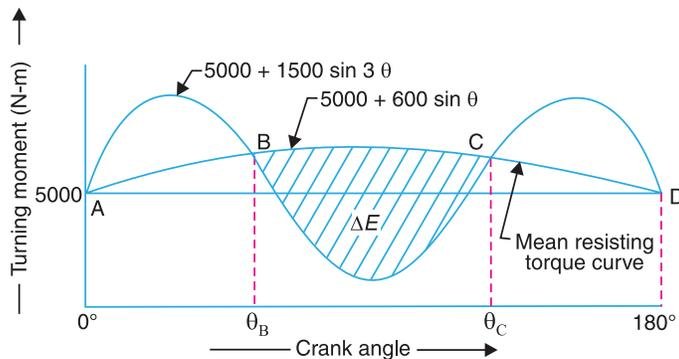

Fig. 16.16
The turning moment diagram is shown in Fig. 16.16. Since at points B and C, the torque exerted on the shaft is equal to the mean resisting torque on the flywheel, therefore
* Since the fluctuation of energy is negative, therefore it is shown below the mean resisting torque curve, in Fig. 16.16.